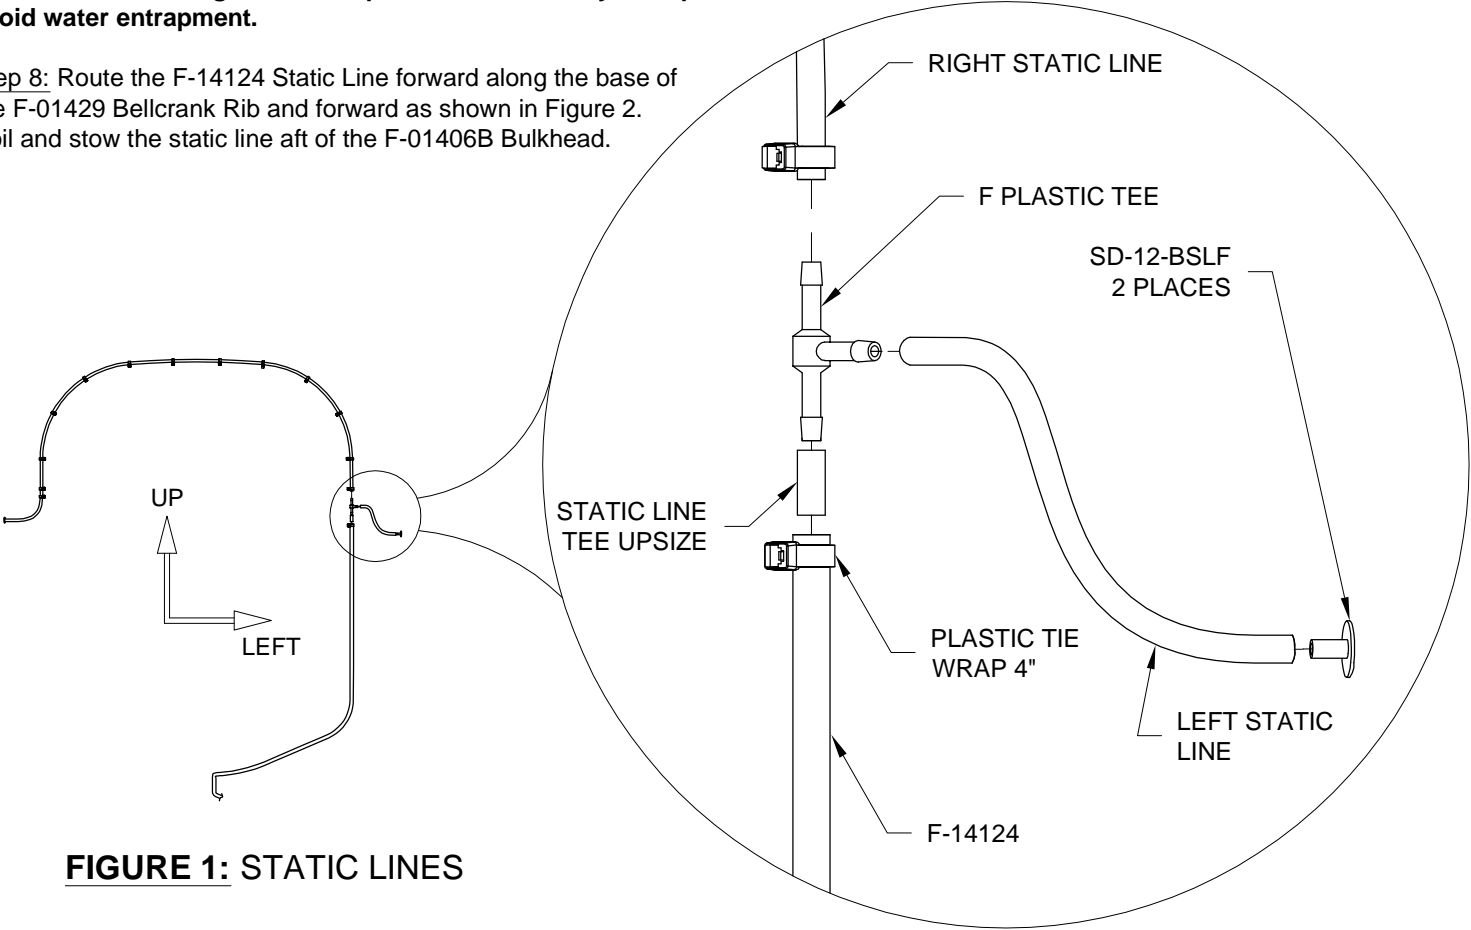

FIGURE 1: STATIC LINES
Step 7: Route and secure the static lines along the upper inside flange of the F-01407 Bulkhead as shown in Figure 1 and Figure 2.